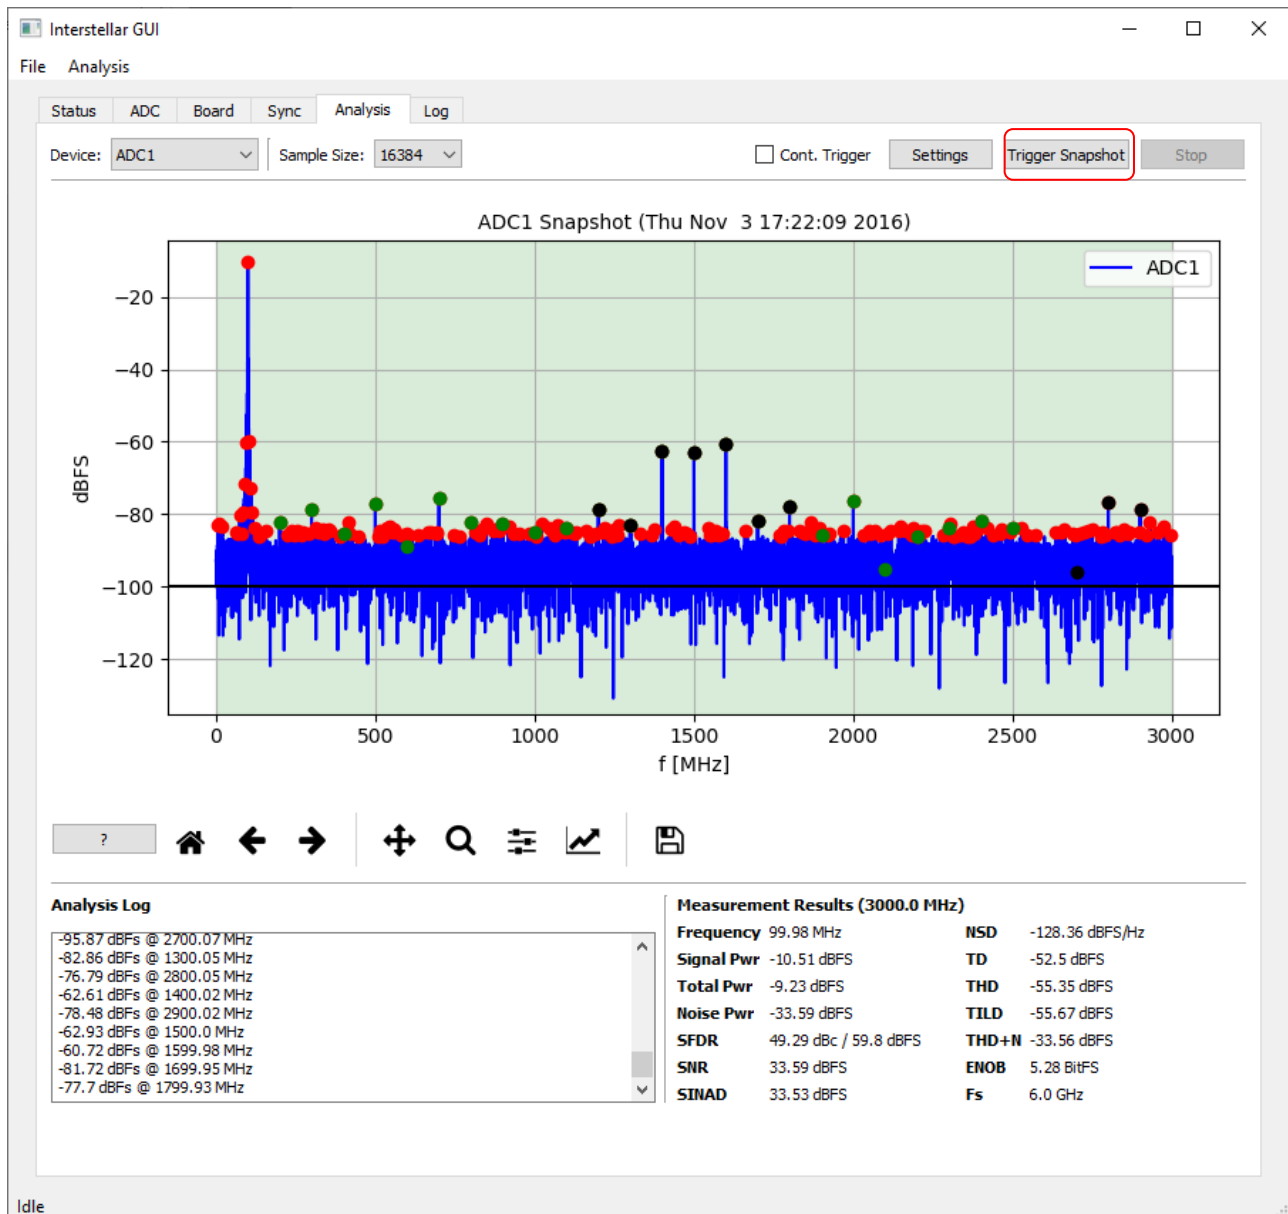

Figure 3: Trigger snapshot and analyze signal in the frequency domain
1. Switch in the GUI to the Analysis tab. This tab is shown in Figure 3.